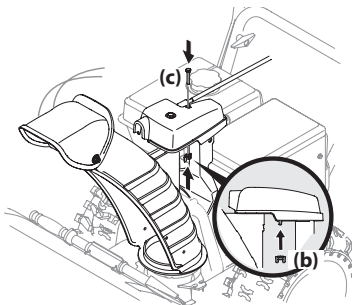

Figure 2-42
4. Finish securing chute control head by installing hex screw (c) and wing nut (b) removed in Step 1. See Figure 2-42.